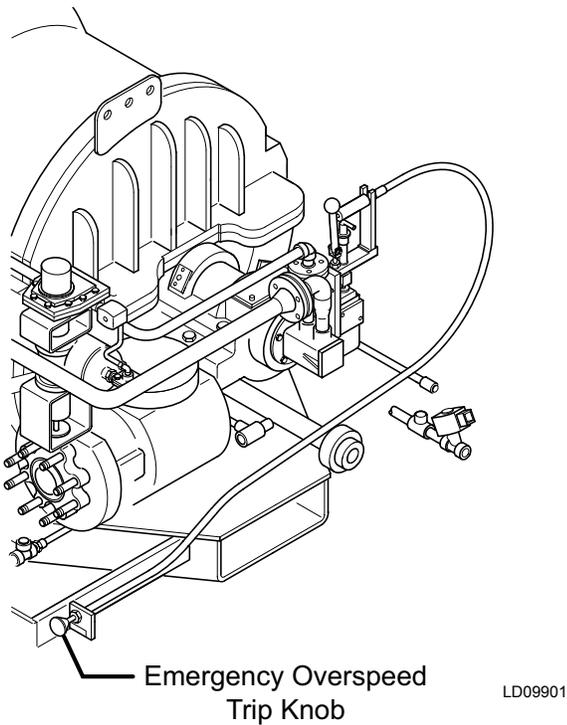

FIGURE 13 - OVERSPEED PROTECTION KNOB ASSEMBLY
- There is an overspeed trip that can be used by the operator in an emergency. This manual trip is activated by an emergency trip knob at the base of the turbine, that is connected to the same linkage as the mechanical overspeed trip. See *Figure 13 on page 60*.